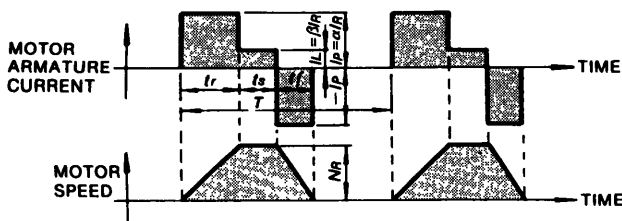

Fig 4.3 Timing Chart of Motor Armature Current and Speed (Restricted by SERVOMOTOR)
• When the motor repeats rated-speed operation and being at standstill (Fig.4.3).